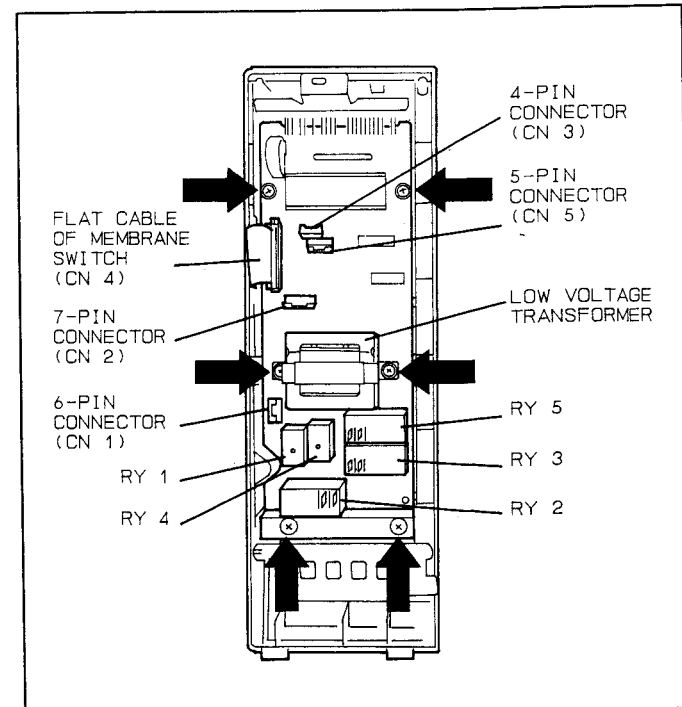

Fig. 18B
- Unplug the 7-pin connector (CN2) from the D.P.C.. (NN-8807, NN-8857 only) (**Fig. 18B**)
- Unplug 6-pin (CN1), 4-pin (CN3) and 5-pin (CN5) connectors from the D.P.C.. (**Fig. 18B**)
- Disconnect all lead wires from the power relay 2, 3 and 5. (**Fig. 18B**)
- Release CN4 connector's lid of the D.P.C. and pull off the flat cable of the membrane switch. (**Fig. 18B**)
- Remove 4 screws holding the D.P.C. (**Fig. 18B**)
- Remove 2 screws holding escutcheon bracket and detach the escutcheon bracket from escutcheon base. (**Fig. 18B**)
4. Replacement of the low voltage transformer and/or power relays (RY 1, RY 2, RY 3, RY 4, RY 5) (**Fig. 18B**)